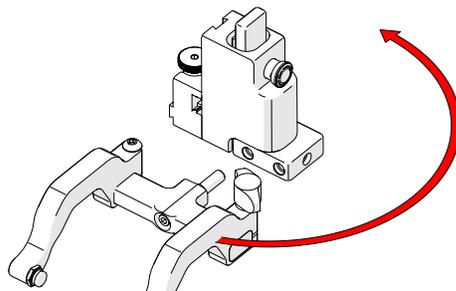

Fig. 115 - Orient to opposite side
2. Position the yoke and arms to the opposite side of the probe holder (Fig. 115).